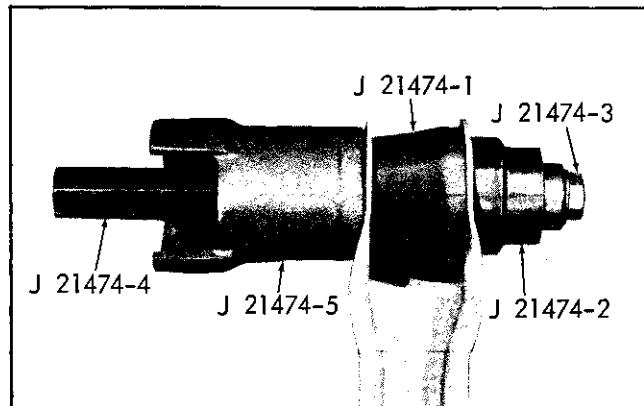

Fig. 4-6 Installing Upper Control Arm Rear Bushing —
3. Install new bushing in axle housing by arranging tools as shown in Fig. 4-6 and press into place. Use care to keep bushing properly aligned. Lightly lubricate bushing to increase ease of installation.